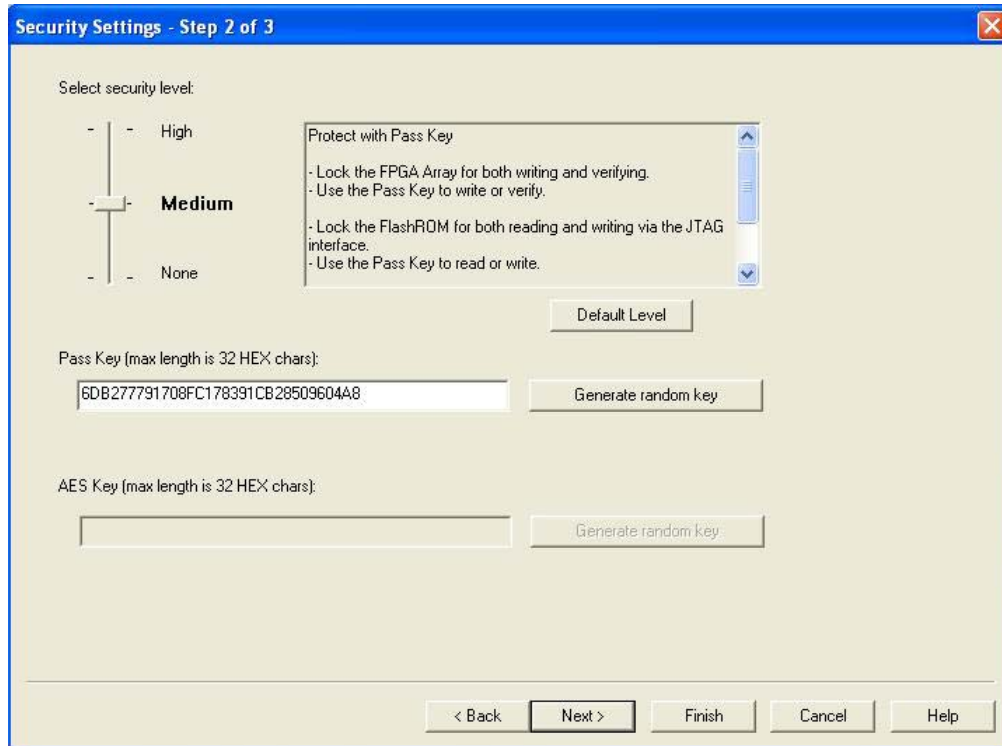

Figure 10-12 • Medium Security Level Selected for Low Power Flash Devices
2. Choose the appropriate security level setting and enter a FlashLock Pass Key. The default is the **Medium** security level (Figure 10-12). Click **Next**.